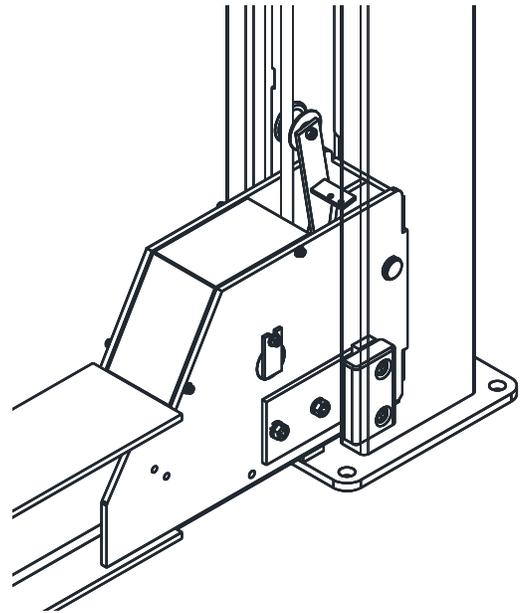
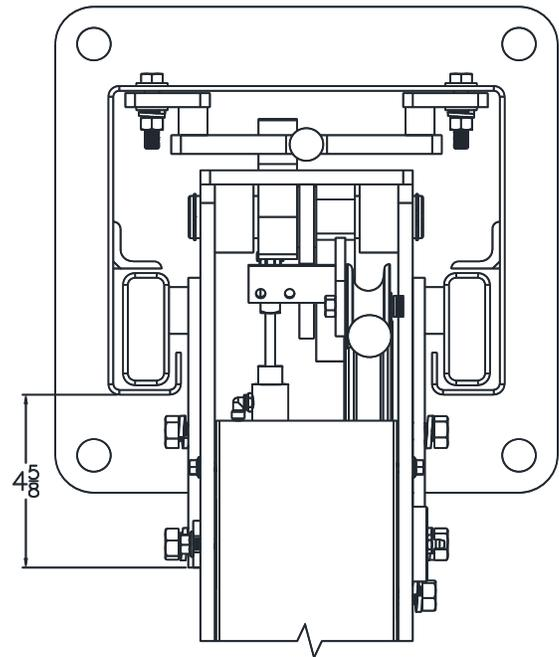

Fig 8 – Slide Block Installation
Fig 9 – Column Positioning
- 12) Slide power side column onto cross beam until the 1/2"-13 threaded holes in the side of the beam are just exposed. Position slide blocks as shown in **Fig 8** and **Fig 9** and attach with 1/2"-13, 0.75" Length steel cap screw, ZC-PLTD, GR-8 bolts (**apply thread nonpermanent locking compound before installing**).
- 13) Push the column against the slide blocks, **Fig 9**. Measure from the column to the edge of the rub block bracket. the dimension should be 4-5/8\"".